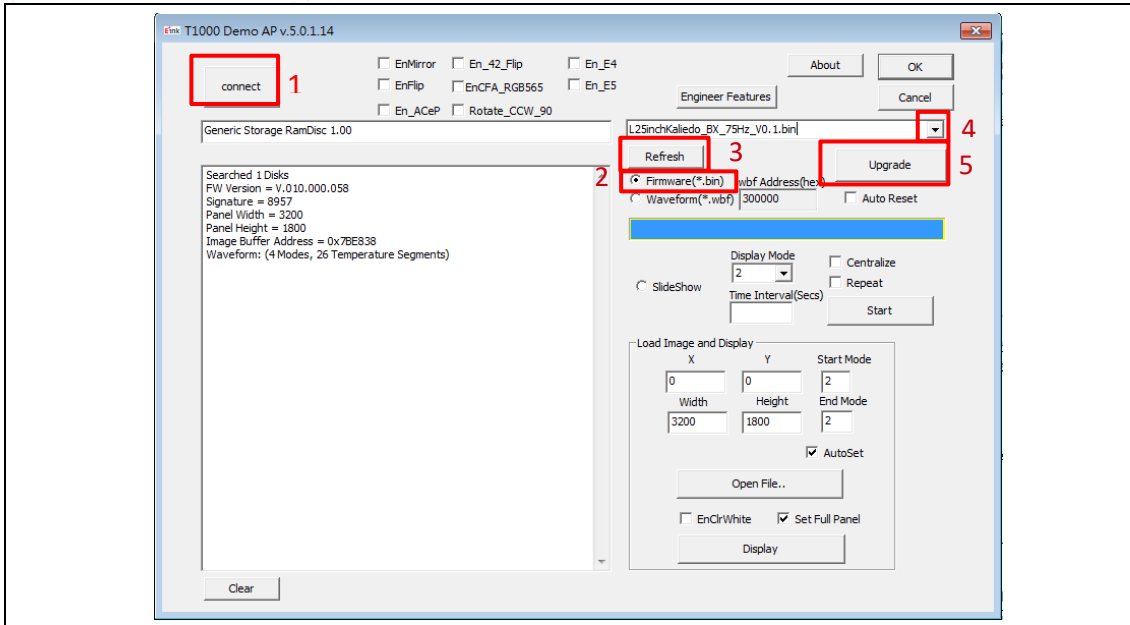

Figure 3.4
(2) How to upgrade firmware
- Execute T1000 Demo AP (refer to Figure 3.4)